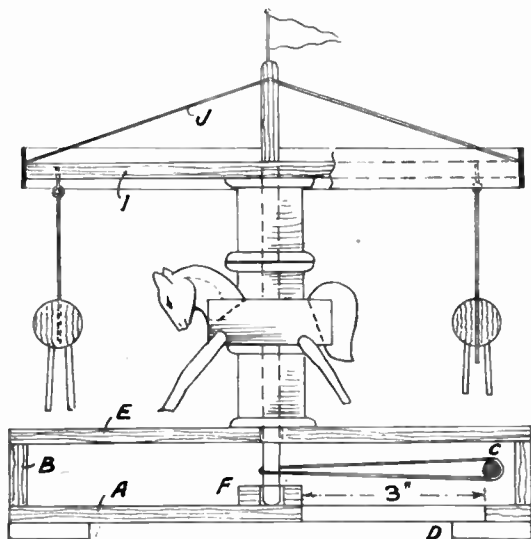
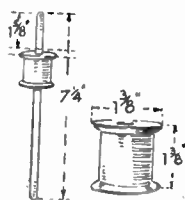

Fig. 3 Sectional drawing of the whole toy
Fig. 5 The upright spindle and cotton reels
Next make the column which stands upon the base, and which supports the top and cone of the roundabout. Here are brought into use—and they suit the case admirably—three ordinary cotton reels of the type shown in the sectional diagram in Fig. 3. To help the worker, we give as an enlarged detail in Fig. 5 the size of one of these reels, so that the upper part of his model may be proportionate to the base.
$\frac{1}{2}$ in. in from the outer edge of the circle of wood, and on the dotted lines, bore fine holes and run in the four screw eyes seen in Fig. 3, which take the upper ends of the wires supporting the horses.
The upright spindle is next prepared, and a piece of $\frac{1}{2}$ in. round rod is again used. Cut the rod to the length shown in Fig. 5, and push it through the reel and the disc (I) to the measurement given. The hole in the reel will be found to be a little larger in diameter than $\frac{1}{2}$ in., and, therefore, a little wedging with small pieces of wood must be done to make a firm fixing.